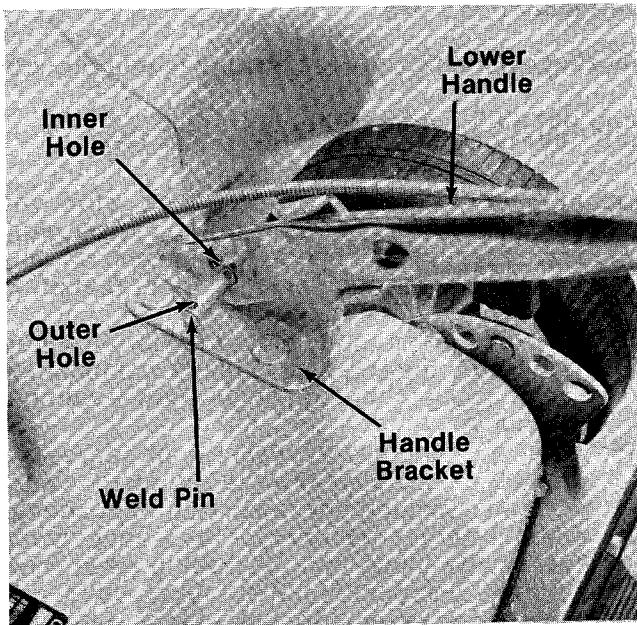

FIGURE 1.
2. Fasten hole in lower handle over weld pins in handle mount brackets on deck. Secure with hairpin coppers in inner hole on weld pin. See figure 1.